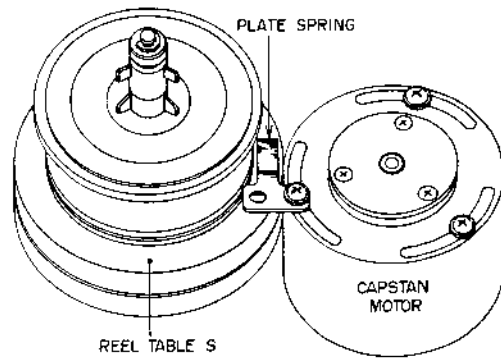

Fig. 1-10
- d) Adjust tension to 8 to 10g by changing the angle of the plate spring installed on upper part of capstan motor. (Refer to Fig. 1-10)